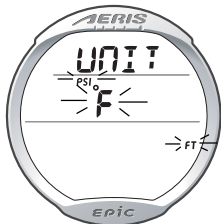

Fig. 58 - SET UNITS
**SET UNITS** information includes (Fig. 58):